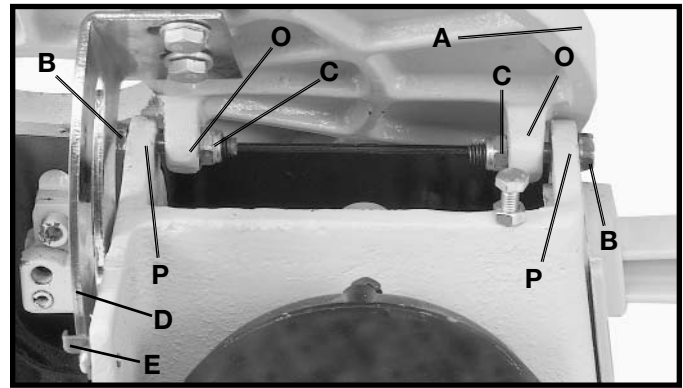

Fig. 7
5. Position table (A) Fig. 7, on the machine as shown. Align the two holes in the table trunnions (O) with the two holes in the base (P) of the machine. **NOTE: BEFORE TIGHTENING THE M6x1x45mm SPECIAL SCREWS (B) AND M6 LOCKNUTS (C) FIG. 7, MAKE SURE THE TILT SCALE (D) FIG. 7, IS POSITIONED INSIDE POINTER (E) AS SHOWN. ALSO, DO NOT COMPLETELY TIGHTEN THE M6x1x45mm SPECIAL SCREWS (B) AND M6 LOCKNUTS (C). TABLE MUST BE ABLE TO TILT FREELY.** Fasten the table (A) Fig. 7, to the base (P), using the two M6x1x45mm special screws (B), and M6 locknuts (C) as shown.